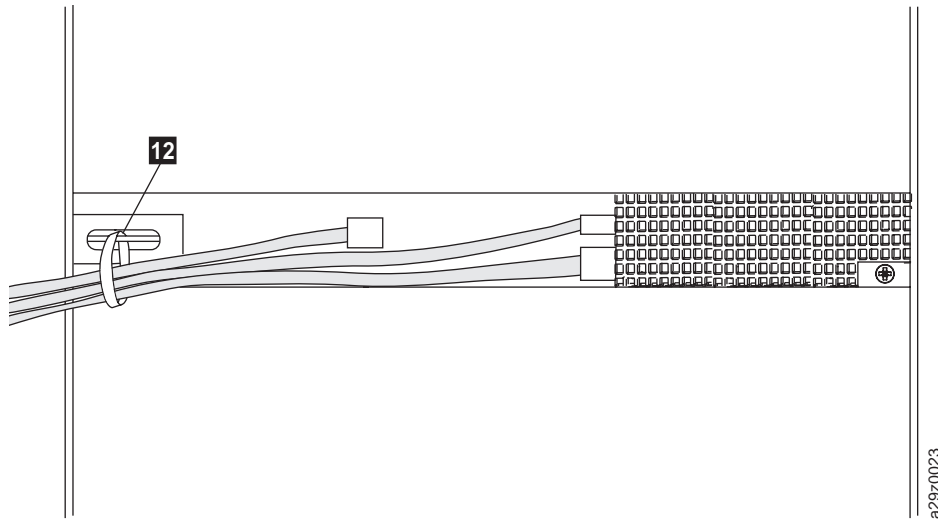

Figure 29. The cables at the rear of the library
9. Run the SAS cable, power cable, and Ethernet cable through the hook-and-loop fastener strap **12**. Leave enough slack to reach the corresponding connectors, then tighten the strap (Figure 29).